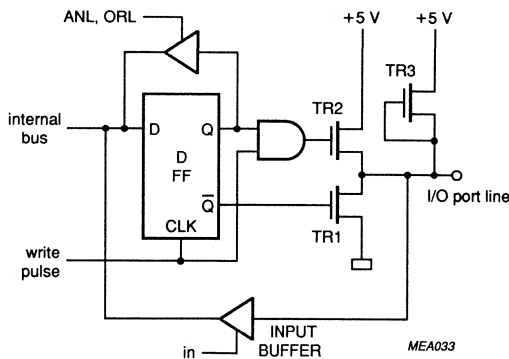

Fig. 13 Standard push-pull I/O with pull-up transistor (option 1).
- **Option 1** STANDARD I/O; quasi-bidirectional I/O (see Fig. 13) consisting of a push-pull output with a weak pull-up transistor (TR3). If the output latch contains a logic 1, then the port line is pulled up to  $V_{CC}$  via TR3. TR3 provides sufficient current for a HIGH level to one TTL input, yet can be pulled LOW by an external TTL or CMOS device, thus allowing the same